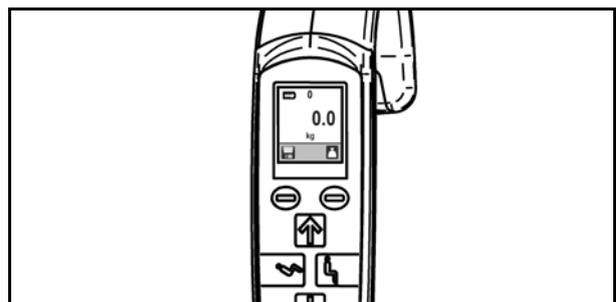

Fig. 59
2. If the sling has already been installed on the spreader bar at start-up, the Maxi Move has already zeroed automatically and taken the weight of the sling into account (see Fig. 59).